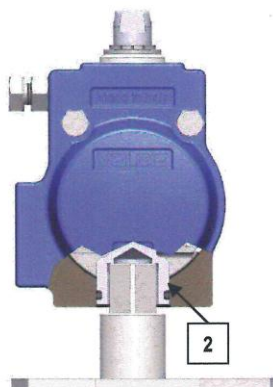
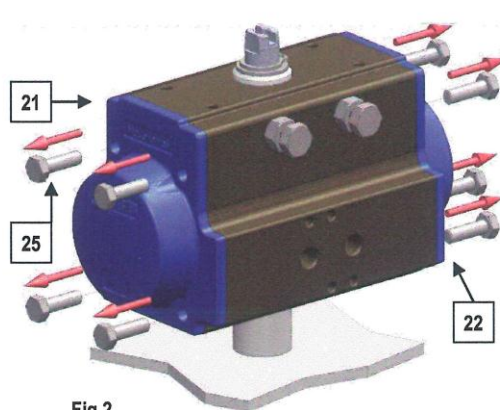
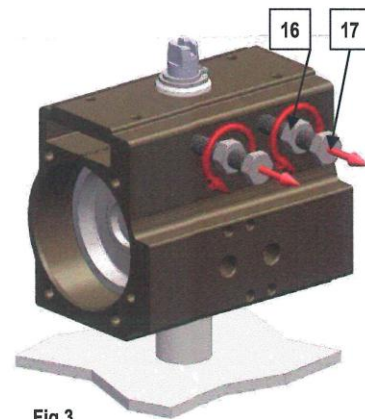

Fig.1
Fig.2
Fig.3
4. Place the actuator on a support with a square of the same size of the pinion (2) so as to easily execute the below listed operation (see Fig. 1):
5. Before disassembling the actuator check from the label on the body whether it is a double acting (DA) or spring return (SR) type;
6. For DOUBLE ACTING ACTUATOR: Unscrew in crossed sequence the screws (25) for fastening the end caps (21-22) see Fig. 2
7. For SPRING RETURN ACTUATOR: Unscrew GRADUALLY in crossed sequence the screws (25) for fastening the end caps (21-22), Fig. 2; Note: the screws are long enough to hold the springs even if extended; Loosen nuts (16) and unscrew completely screws (17) see Fig. 3 ;